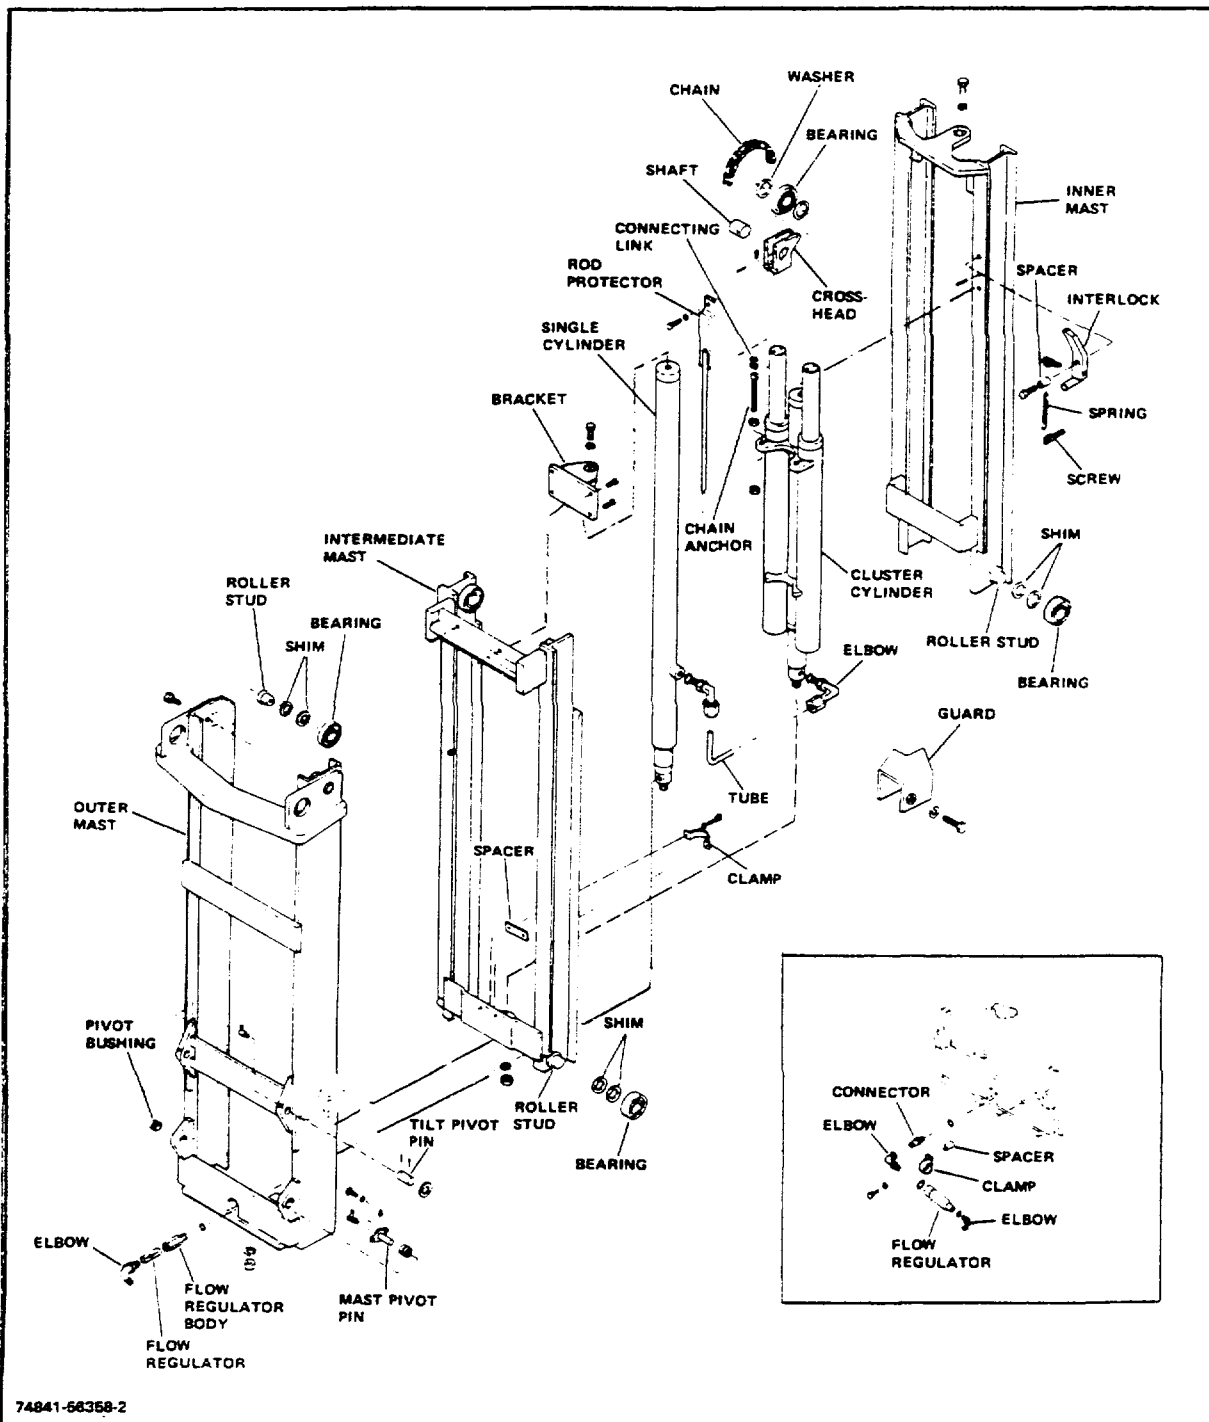

Figure 1-1. Tri-Max Mast (35-55 Series)
The Tri-Max mast is a three section mast assembly (Fig 1-1 Three upright structural assemblies nested together
3. Install interlock assembly (refer to Figure 1-1).